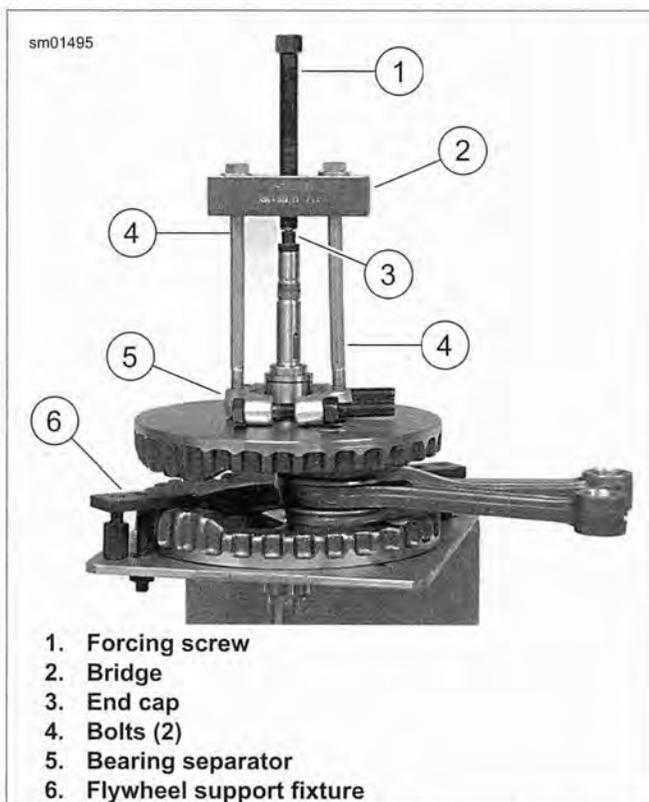

Figure 3-122. Pulling Pinion Shaft Inner Bearing
See Figure 3-122. To remove pinion shaft inner race, use BEARING SEPARATOR (Part No. Snap-on Tools Stock No. CJ950), three items from END CAP (Part No. HD-34902-7), BRIDGE (Part No. J-7830-5) and FORCING SCREW (Part No. J-21686-12), and two bolts. Apply heat to race to aid removal. Four sizes of pinion bearings are available.
10. See Figure 3-122. Pull inner race from pinion shaft using BEARING SEPARATOR (Part No. Snap-on Tools Stock No. CJ950), three items from END CAP (Part No. HD-34902-7), BRIDGE (Part No. J-7830-5) and FORCING SCREW (Part No. J-21686-12), and two bolts. Apply heat to race to aid removal.